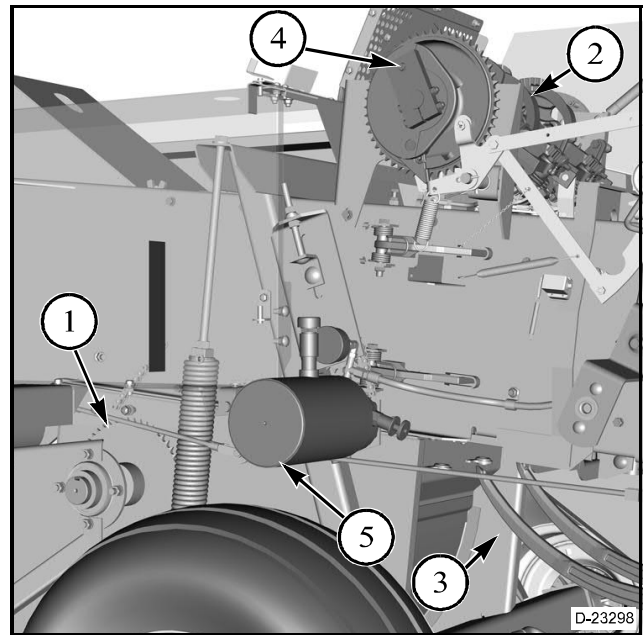

FIG. 7
FIG. 7: A sprocket (1) on the left-hand end of the stuffer shaft drives a No. 50 chain. The No. 50 chain drives the knotters (2) and the needles (3). These components are protected by a shearbolt (4).